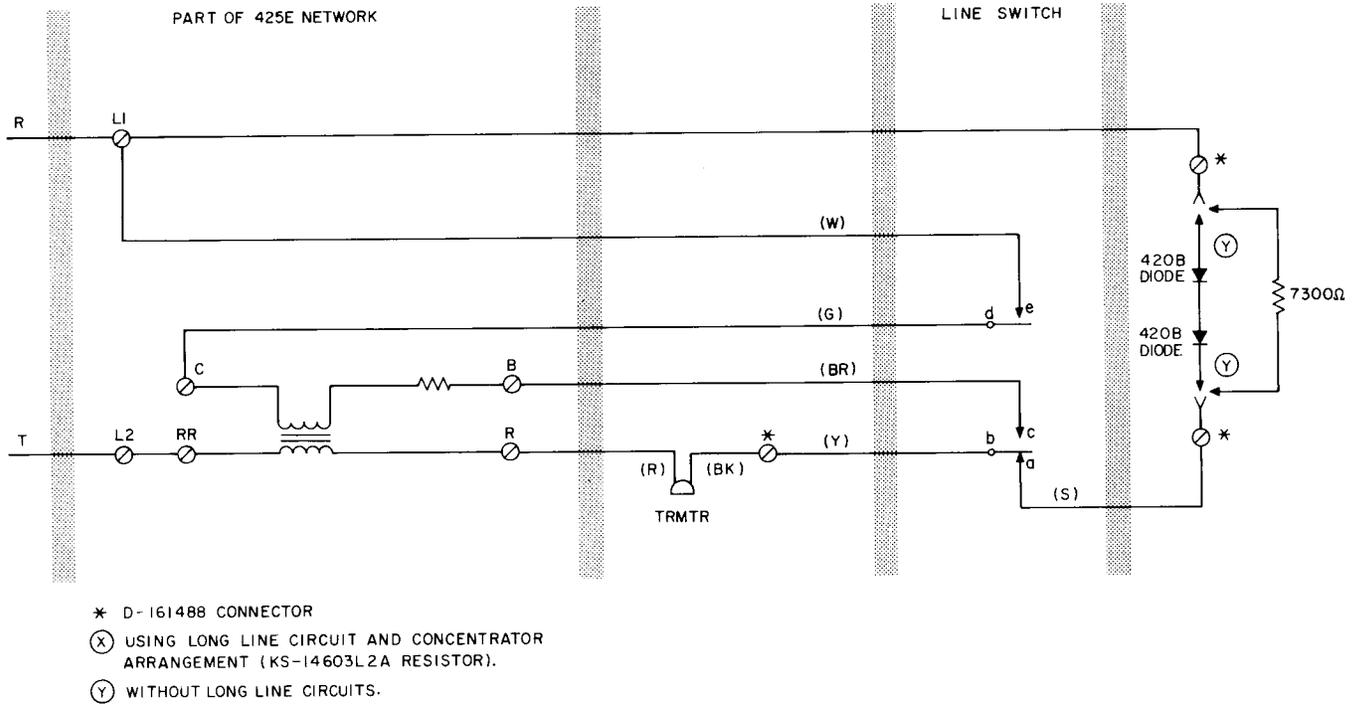

Fig. 18—Modification of 500C/D Telephone Set (Without Dial) for use with 520 Emergency Reporting System (Without Selective Routing)
- (1) Move lead of the R1 (7300 ohm) resistor from terminal 6 to terminal 9.
- (2) Connect a KS-14603L2C (3700 ohm) resistor between terminal 6 and terminal 9.
5.02 A 500C/D telephone set can be modified for use as an emergency reporting station (Fig. 18).